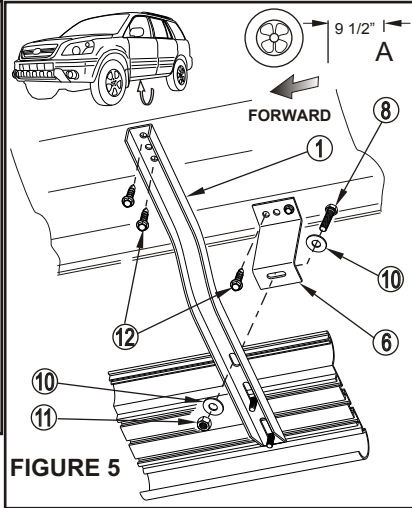
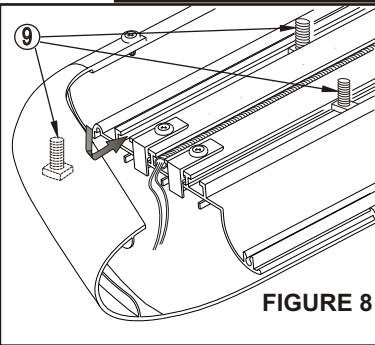
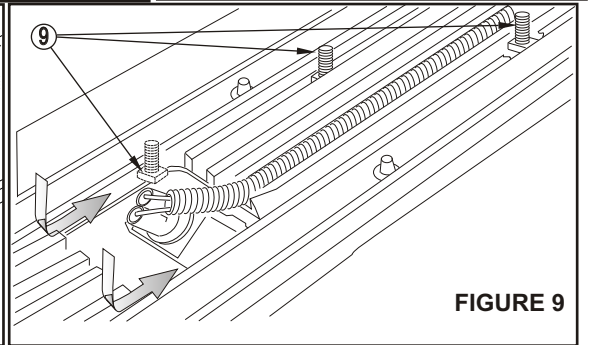
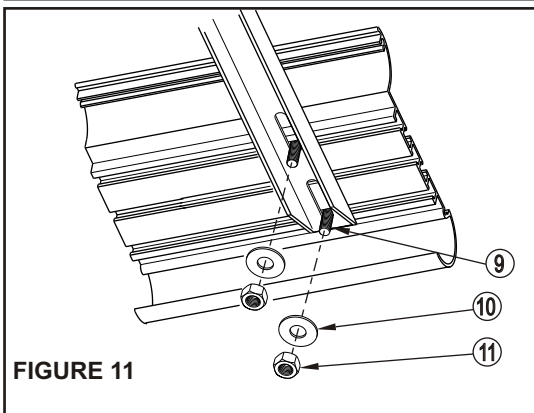

FIGURE 5
FIGURE 8
FIGURE 9
FIGURE 11
- STEP 4.** Insert square head bolts as shown (4 per slot, 8 per Step board/Running board) (See Figure 8 and 9). Attach step board to middle brackets. Align and hand tighten (See Figure 11). Locate position for front and rear hangers. Attach to rocker panel as shown (See Figure 5 and 6). Attach front and rear brackets as shown (See Figure 5 and 6). NOTE: For lighted Step board/Running board, run wiring harness prior to attaching step board to brackets (Refer to Step 7) (See Figure 8, 9 & 12). Run longer wire harness on passenger side.
- STEP 6.** Attach Step board / Running board to brackets as shown. Align and tighten (See Figure 11). NOTE: For lighted version of Step board, remove plastic cover from each end of under side of Step board. Proceed to Steps 7-8.
- HINT:** Step boards: For Longevity, check rubber seals before installation. Rubber grommets around red and blue wires going into rear sockets, should be inserted and recessed about 1/4". NOTE: Remove bulbs and apply white grease into sockets and replace bulbs. Apply RTV Silicone where lights go into socket. Install lights and run wire loom as shown (See Figure 9). For Aluminum Running board, run wire loom down center as shown (See Figure 8).